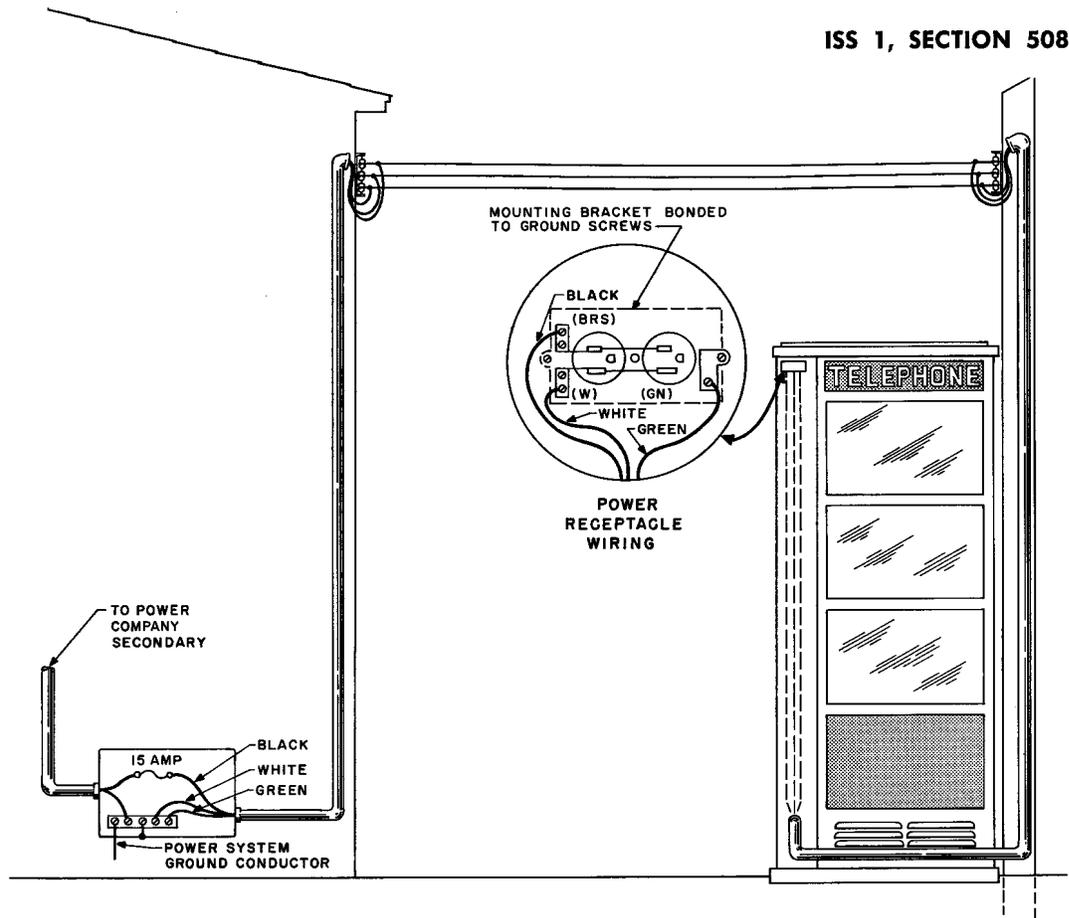

Fig. 4 - 3-wire Open Conductor Extension of Branch Circuit
9.04 Fig. 4 shows the third booth grounding wire run as an open conductor.